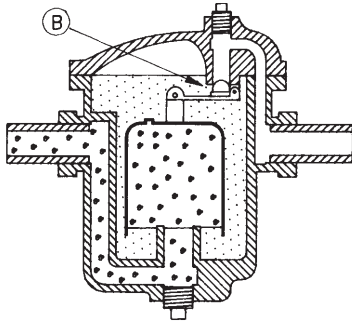

FIGURE 3
Figure 3: At temperature, steam enters under the bucket and causes it to float up and close the valve (B). During heat use, any condensate entering the line is forced up into the bucket. The bucket loses buoyancy and drops down, reopening the valve and discharging the condensate. (see Figure 1)